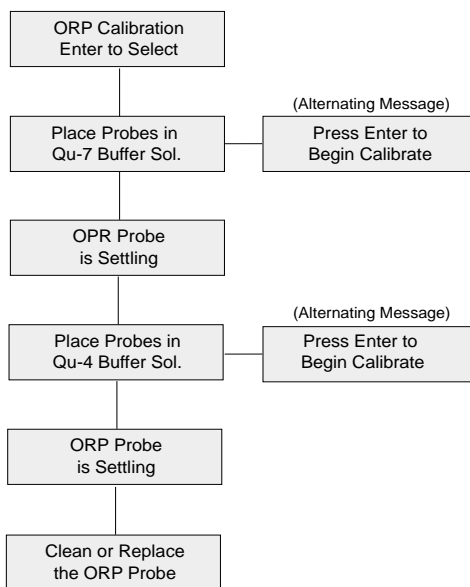

Figure 4.9 ORP Calibration Menu
4. At the AquaNode controller, press the Enter key from any place on the Top Level Display, you will be at the Setpoint Menu. Use the arrow keys to scroll to the Operation Menu and press the Enter key. Use the arrow keys to scroll to the Probe Calibrate sub-menu. When you press the Enter key, you will be prompted whether you wish to continue with probe calibration. After selecting yes, the menus will prompt you through the calibration process, as shown in Figure 4.9. Be sure to let the probes settle in the calibration solution at least one minute before pressing Enter to begin calibration.